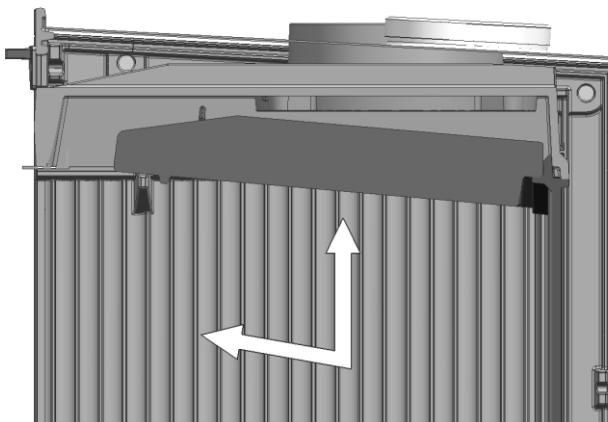

Fig. 1
1. A -Slide the deflection place forward and upward until the side tabs on the deflector are free (Fig.1)